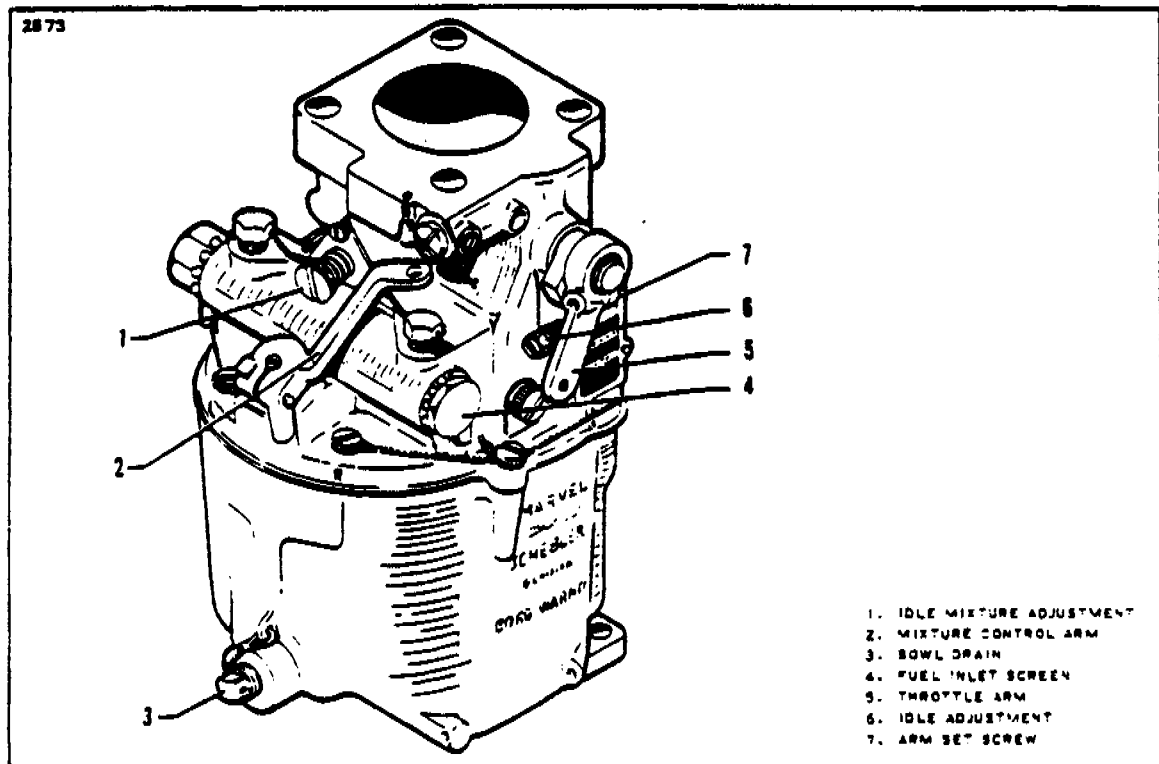

FIGURE 7A-10. CARBURETOR
- d. Clean the fuel inlet screen. (Refer to Figure 7A-10.)